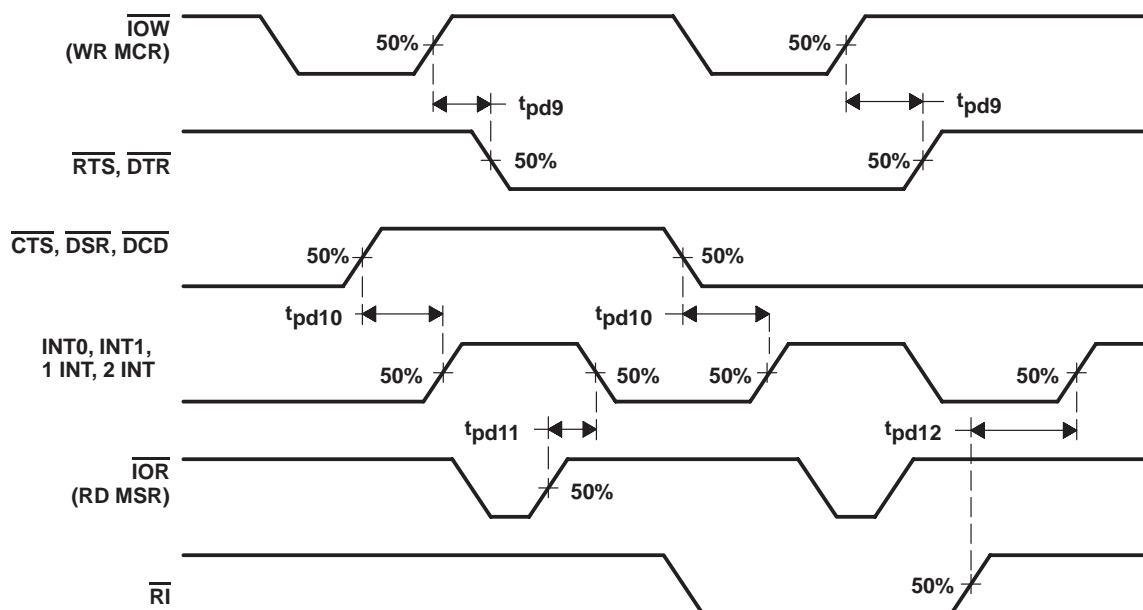

Figure 14. Modem Control Timing Waveforms
**modem control switching characteristics over recommended ranges of operating free-air temperature and supply voltage, CL = 100 pF (see Note 15 and Figure 14)**